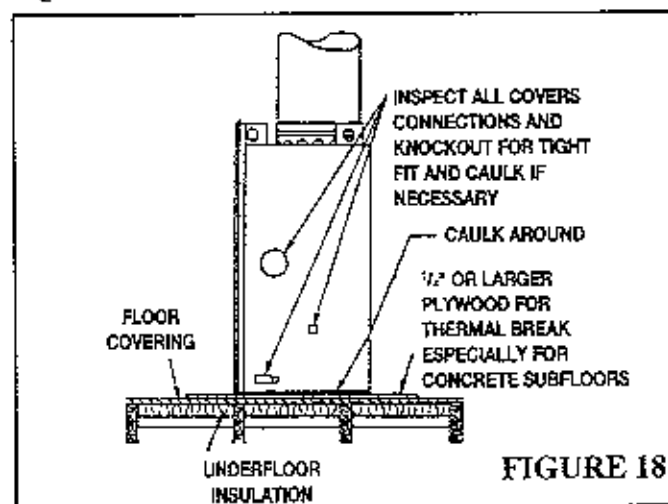

FIGURE 18
- Set the fireplace on a 1/4" or larger plywood as shown in Figure 18; or
- Using a silicone caulking material, caulk the bottom seams of the fireplace between the base pan and outer casing as shown in Figure 18.